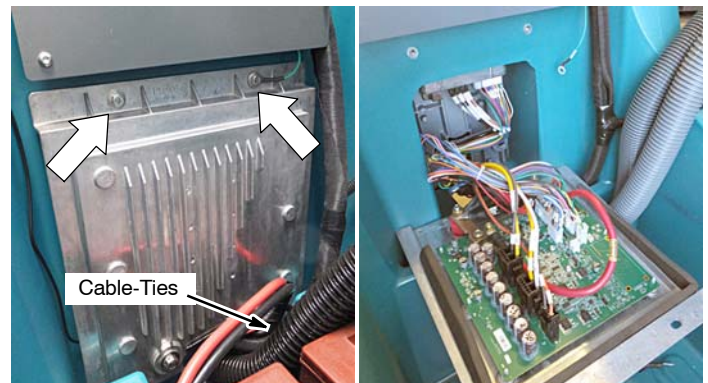

Fig. 2
4. Remove the top two screws from the heat-sink panel and carefully lower panel as shown (Figure 2). Place a piece of cardboard over the battery terminals to prevent contact with metal heat-sink panel. To fully lower panel, it may be necessary to some cut cable-ties near bottom of panel.